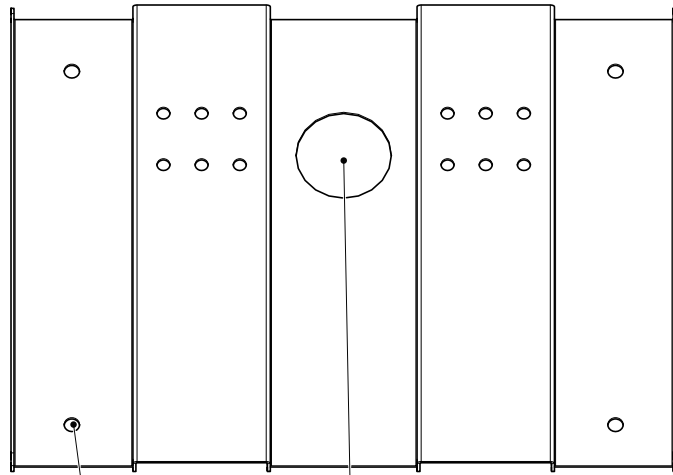

Figure 7: Base plate mounting holes
2. Using the Kiosk base plate as a template, trace an opening in the floor for the cutout and mark the 4 base plate mounting hole locations as shown in Figure 7.
5. Secure the base plate to the floor using 4 bolts in the base plate mounting holes shown in Figure 7. The holes are 0.406" in diameter.